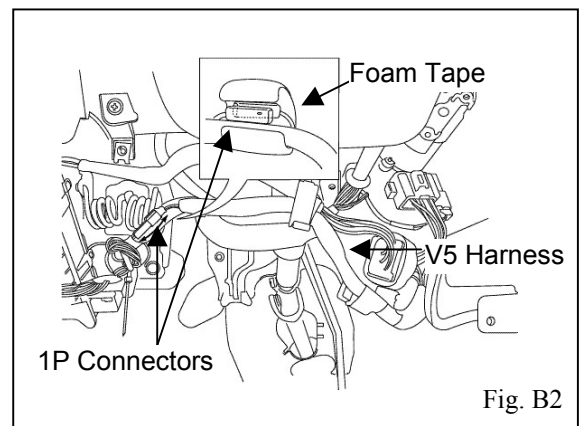

Fig. B2
- 2. Lay the disconnected 1P connectors side by side on the vehicle harness. Wrap the connectors to the harness with one small strip of foam tape. Do not reconnect the 1P connectors. (Fig. B2)